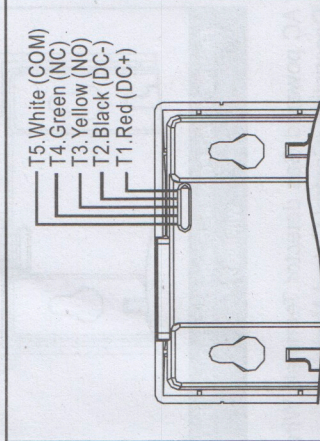

FIGURE 3 DC POWERED with RELAY OUTPUT WIRING
2. The DC power supply module use terminal T1 (Red) and terminal T2 (Black) as power input. Relay output module has NO/NC/COM output Please see figure 3